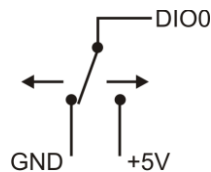

Figure 4. Schematic showing switch detection by digital channel DIO0
When configuring the digital bits for input, the digital I/O terminals can detect the state of a TTL-compatible device. The ground (**GND**) terminal (pin 48) provides a common ground for the digital I/O channels. Refer to the schematic shown in Figure 4. If the switch is set to the +5V input, DIO0 reads *TRUE* (1). If the switch is moved to GND, DIO0 reads *FALSE* (0).